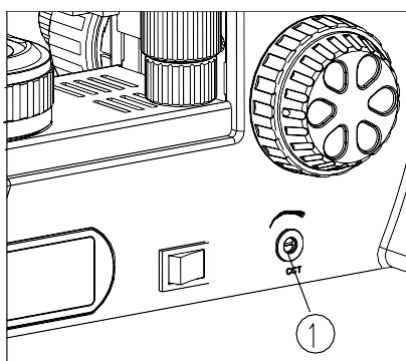

Fig. 10
The illumination color temperature can be adjusted from 3000K to 5600K according to the demand. Insert a flat tip spanner into the color temperature adjustment knob ① to select increase or decrease with step 100. Rotate clockwise to increase color temperature, and rotate counterclockwise to decrease color temperature. (See Fig. 10)